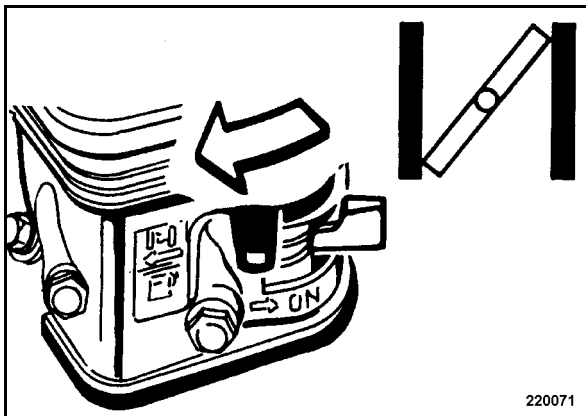

Fig. 16
- Close the choke completely by shifting the lever (Fig. 16) in direction of arrow against the end stop.